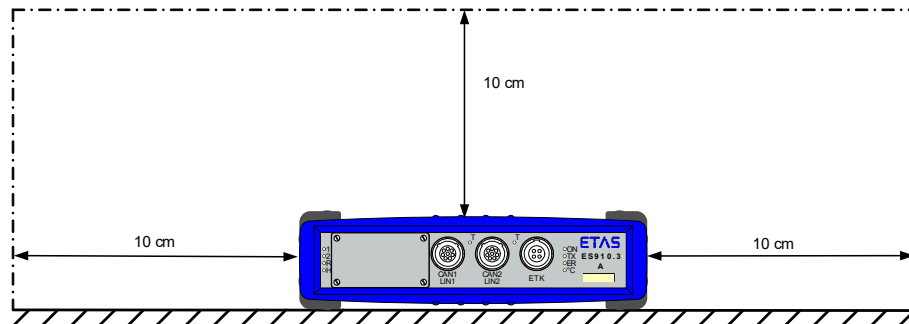

Fig. 5-1 Free Space around the ES910.3-A
- Adhere to the minimum distances of at least 10 centimeters on the sides and above the module (see Fig. 5-1 on page 43).